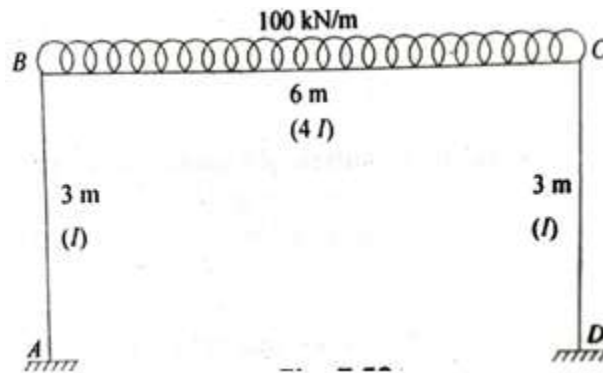

Figure-3
4. Find the support moments at A, B, C, D for the portal frame loaded as shown in Figure-3. Use kani's method. 16 M